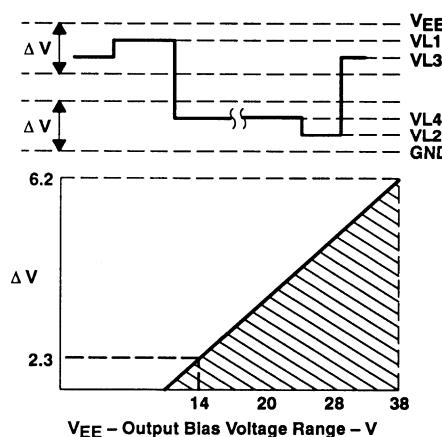

Figure 1
4. VLn voltage range should be within  $\Delta V$  (see Figure 1).